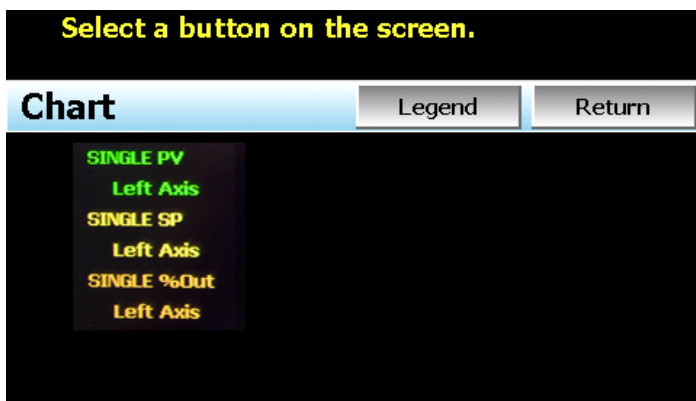

Fig. 76: Plot Channel - Axis Display
- Press LEGEND to access information on the names of the selected plot channels, which axis they are associated with, and the color used to display the plot channel (Fig. 76). Pressing the button again will toggle the display back to the historical chart.